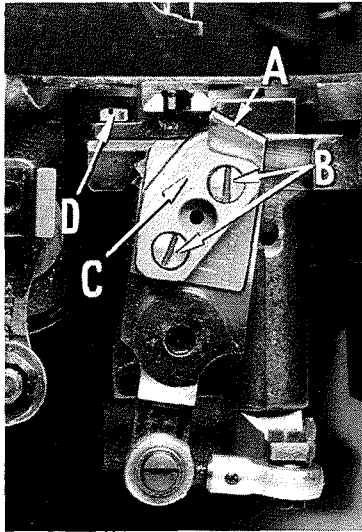

Fig. 14
Set the hook (A, Fig. 14) high on the carrier, and tilt forward as far as it will go. Loosen screws (B) to make this adjustment. The hook needle guard (C) guards the right side of the needle and has no adjustment.
The plunger should be set .005 inch from the hook needle. Loosen the plunger block holder screw (D, Fig. 14) and move the block in the